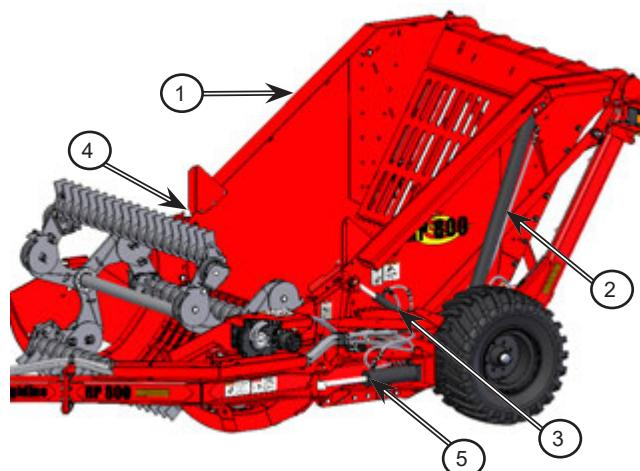

Figure 4.24: Check the hydraulic cylinders
- b. Visually inspect all the hydraulic cylinders (1-5 in \*Figure 4.24\*).